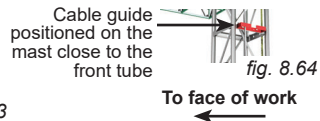

fig. 8.64
- 15- Install the first cable guide on the middle bar of the second mast section, making sure it is positioned on the structure to be close to the tube located on the front of the mast (fig. 8.64), toward the face of the work.